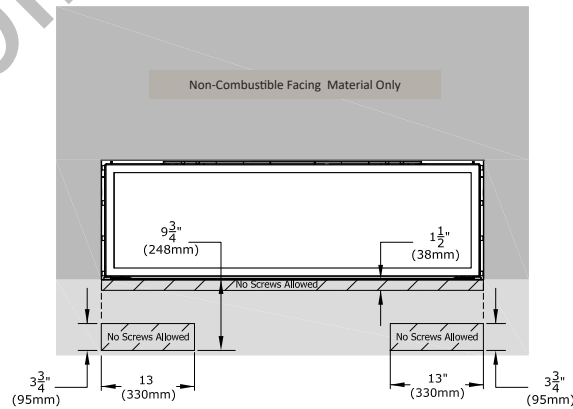
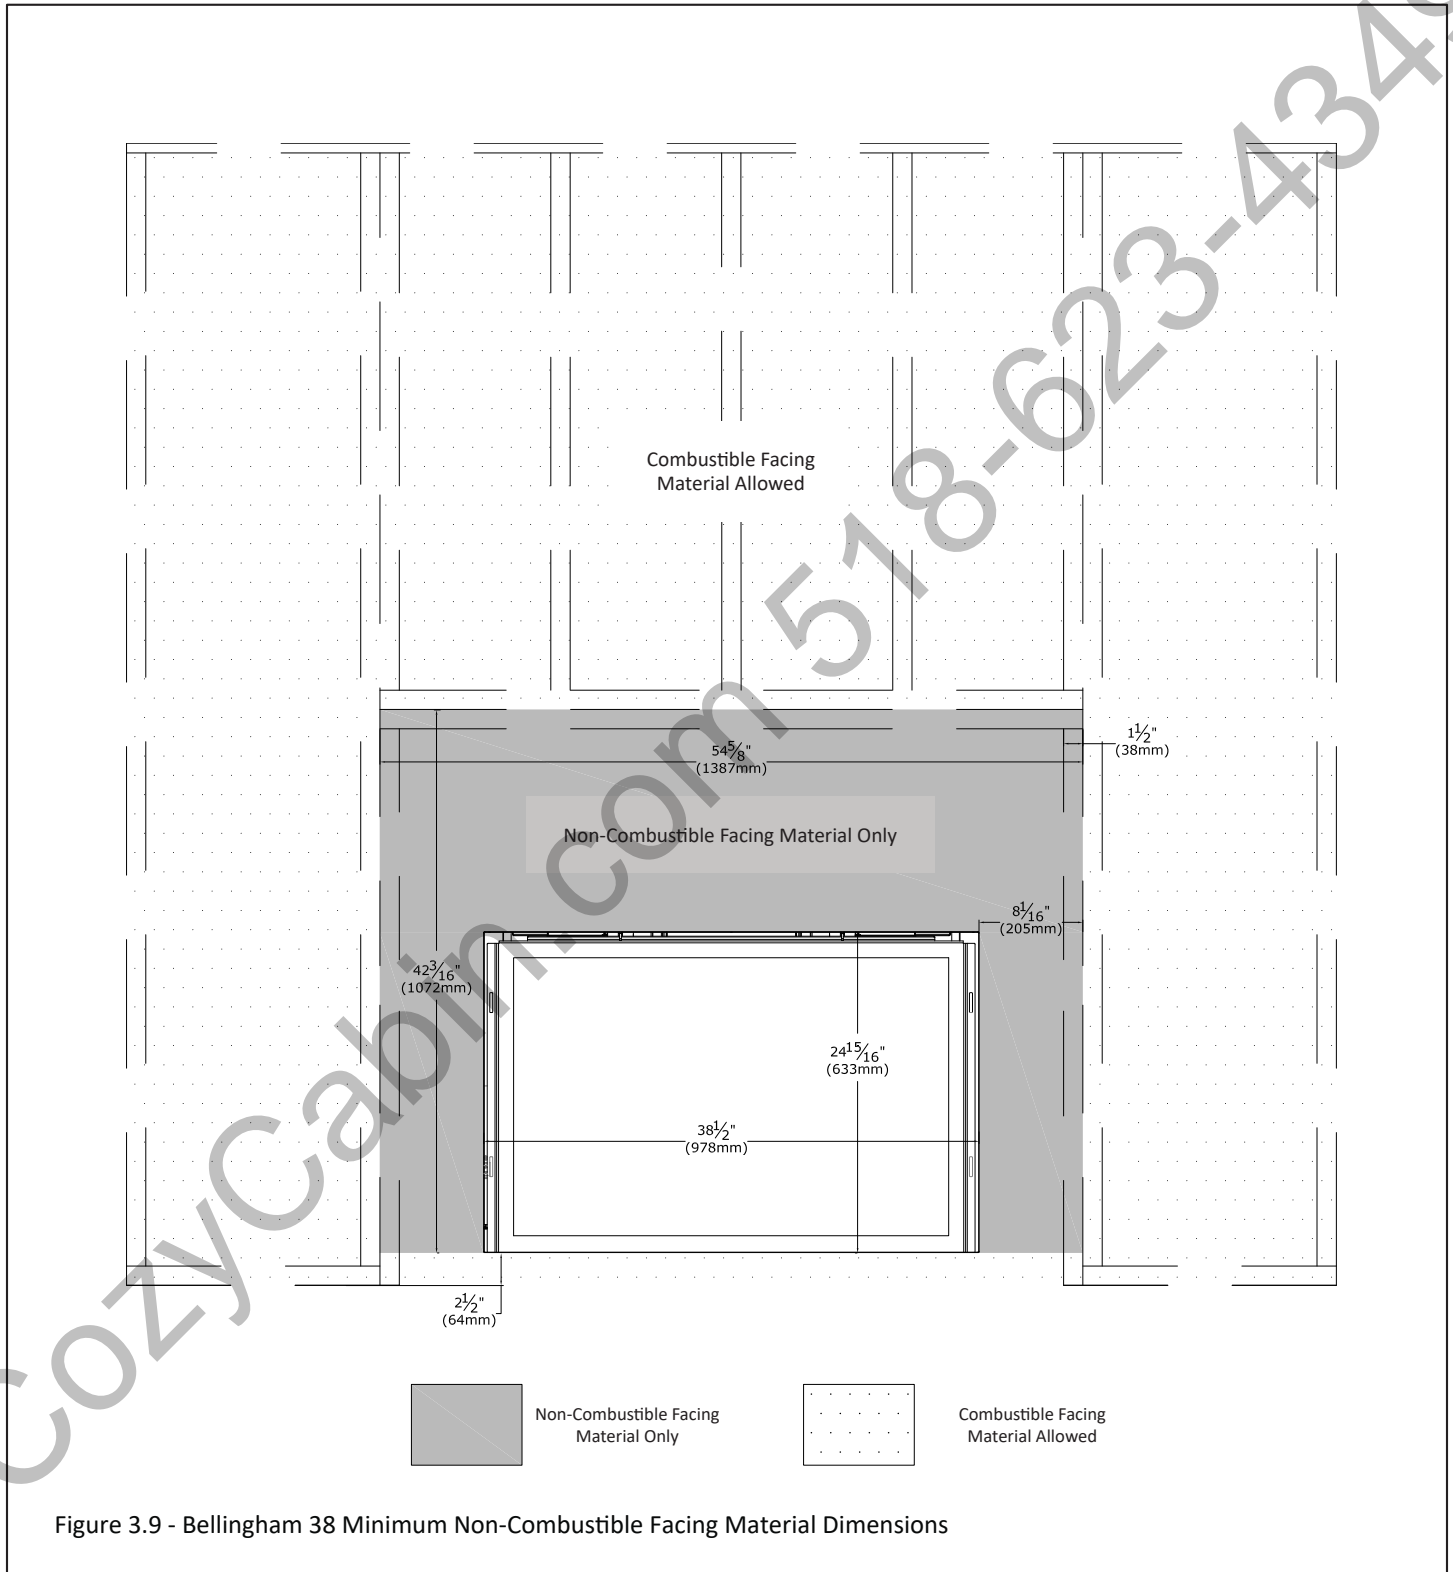

Figure 3.7 - Callaway 50 & Callaway 50 MV Minimum Non-Combustible Facing Material Dimensions
Figure 3.9 - Bellingham 38 Minimum Non-Combustible Facing Material Dimensions
Figure 3.14 shows installation of combustible wall finish up to 1" (25mm) thick for the Callaway 50 & Callaway 50 MV. This combustible material goes over any required non-combustible materials as shown in Figure 3.7.
- Figure 3.7 and 3.8 (Callaway Series), Figure 3.9 and 3.10 (Bellingham Series), and Figure 3.11 and 3.12 (Nordik Series) show the Non-Combustible Finishing Zones for the minimum requirement of non-combustible facing material.